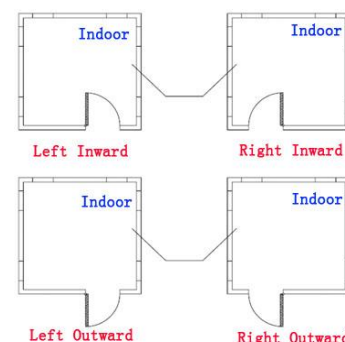

Figure 1
(1). The deadbolt’s body outside and inside must align properly. Assume you are standing outside the room/structure and facing a door. Basically there are four door opening-directions: Left inward, left outward, right inward and right outward. Left inward/outward means the door swings inward/outward with hinges on the left; right inward/outward means the door swings inward/outward with hinges on the right (see **Figure 1 below**):